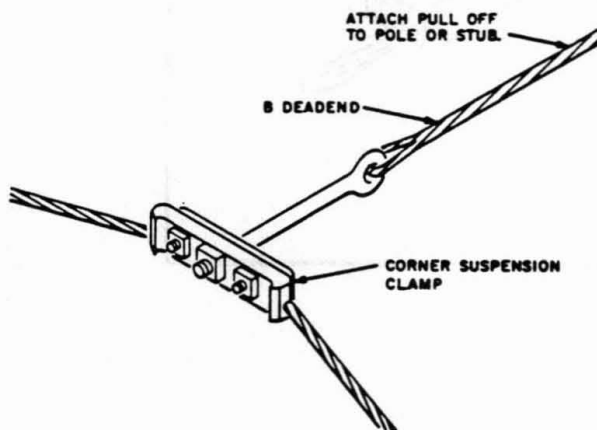

Fig. 12 — Pull-Off for Aerial Turn
7.03 Avoid making turns in the span wherever practical but when a turn in the span is necessary and the corner pull is not more than 50 feet, construct a pull-off as shown in Fig. 12.